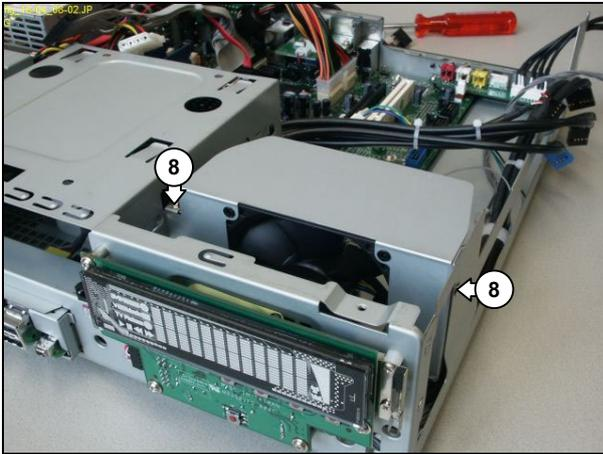

Figure 12.14-4
3. Remove the 2 mounting screws (8) from the CPU fan subassembly. See Figure 12.14-4.